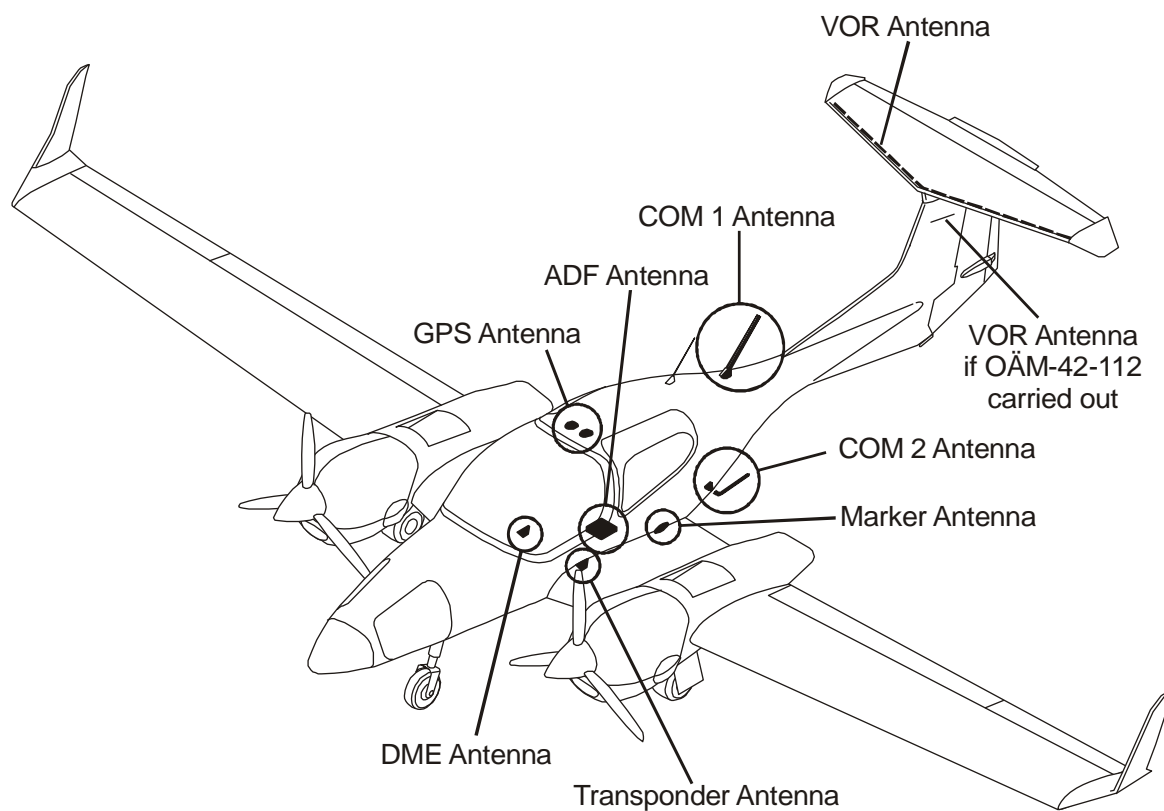

Figure 4: Flight Environment Data - Component Locations
- Figure 4 shows the component locations.